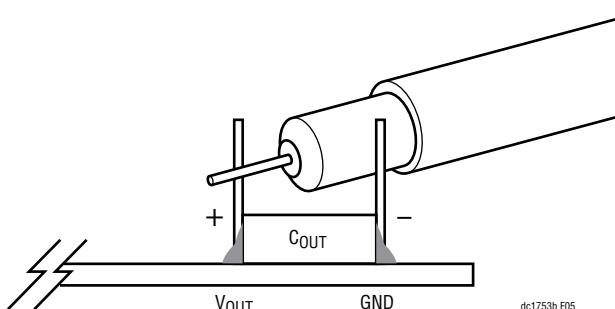

Figure 5. Measuring Output Voltage Ripple
**NOTE:** When measuring the input or output voltage ripple, care must be taken to avoid a long ground lead on the oscilloscope probe. Measure the output voltage ripple by touching the probe tip directly across the C20 or C23. See Figure 5 for the proper scope probe technique.
An accurate ripple measurement may be performed by using the configuration in Figure 5 across C20 or C23.